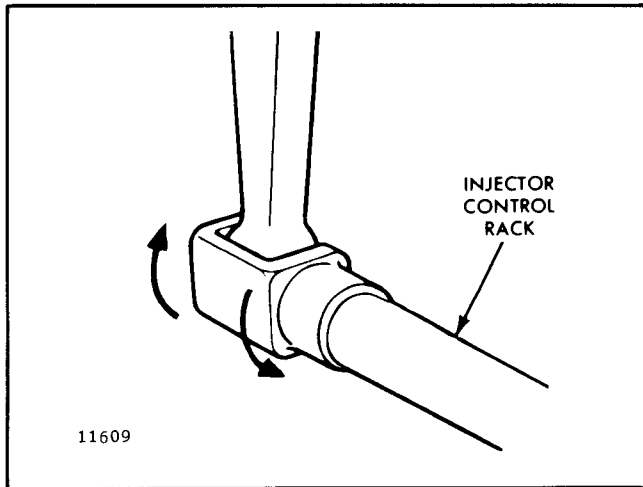
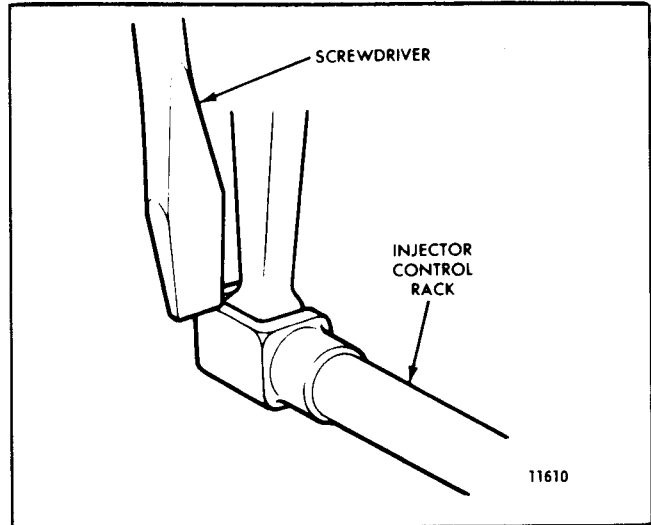

Fig. 3 - Checking Rotating Movement of Injector Control Rack
Fig. 4 - Checking Injector Control Rack "Spring"
4. To be sure of proper rack adjustment, hold the stop lever in the *run* position and press down on the injector rack with a screwdriver or finger tip and note "rotating" movement of the injector control rack (Fig. 3). Hold the stop lever in the *run* position and, using a screwdriver, press downward on the injector control rack. The rack should tilt downward (Fig. 4) and, when the pressure of the screwdriver is released, the control rack should "spring" back upward.